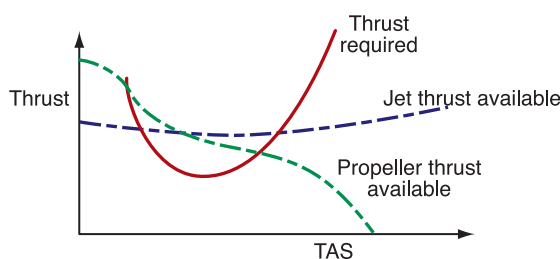

Figure 1–9 Relationship of thrust required to thrust available.
- 1.15** The following points can be derived from the relationship of thrust required and thrust available shown in Figure 1–9: